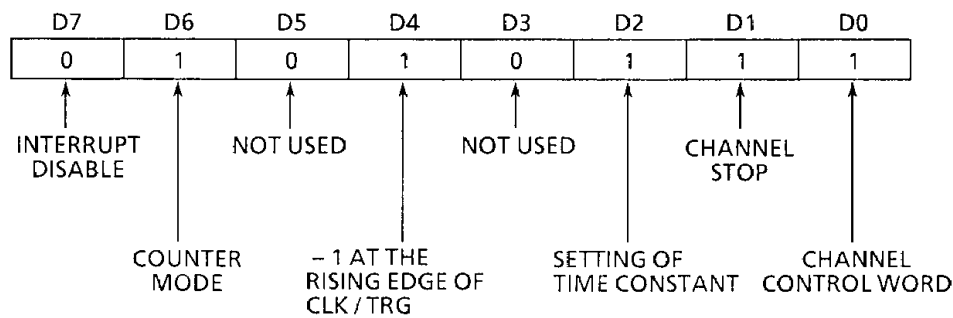

Figure 3.15 Channel Control Word Configuration
- (c) The channel control word configuration is shown in Figure 3.15.